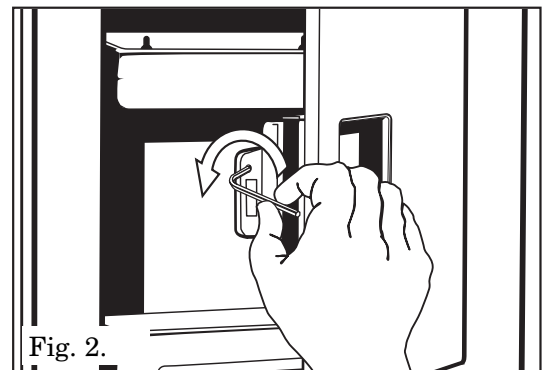

Fig. 2.
2. Loosen the set screw with a 5/64" Allen wrench as shown in Fig. 2.